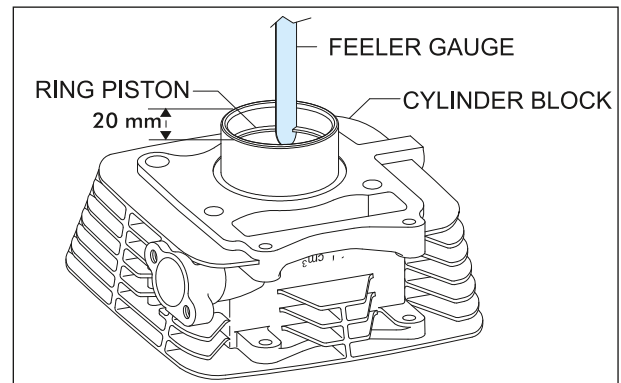

Fig. 3.100
- The close end gap of each ring is to be measured with the ring fitted squarely in the cylinder bore at 20 mm from the cylinder bottom. (Fig. 3.100)